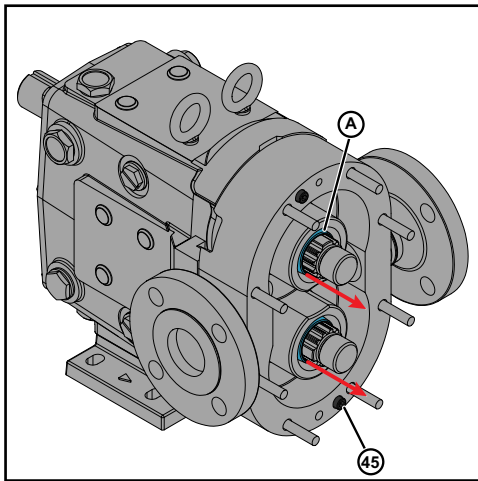

Figure 125 - Install Cap screw
4. Secure the pump body to the gear case using two cap screws (45).
5. Remove both the Installation guide (A) from the pump body, as shown in Figure 125.